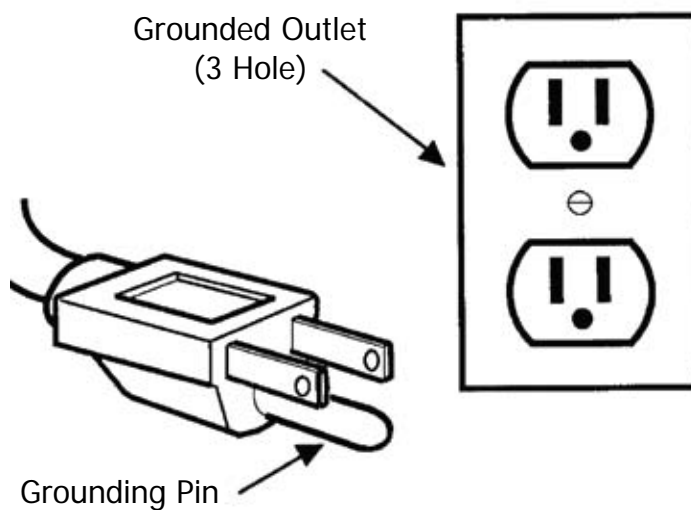

Figure 2. Illustration of Grounded Outlet and Cord Connector's Grounding Pin
This machine is equipped with a cord which has an equipment-grounding connector and grounding pin (see Figure 2). The connector must be plugged into an appropriate outlet which is properly installed in accordance with all local codes and ordinances.
7. Connect the machine's power cord to a grounded wall outlet (see Figure 2).